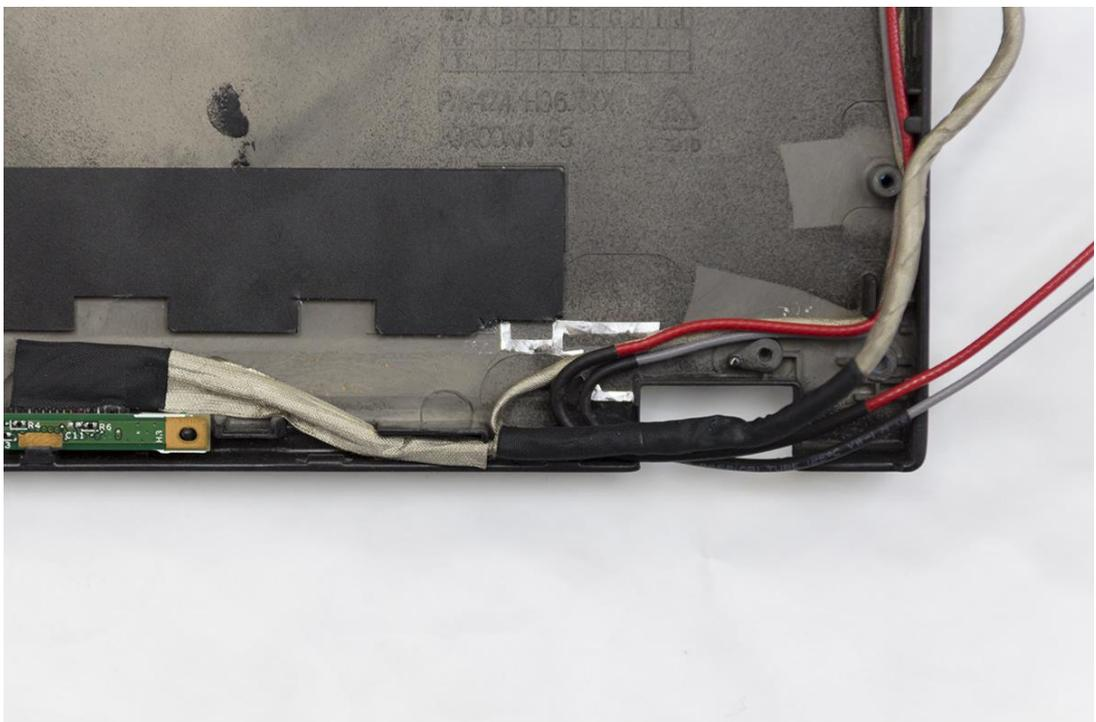

Figure 19. Camera and antenna cables
8. Route the camera and antenna cables as shown in figure 19;